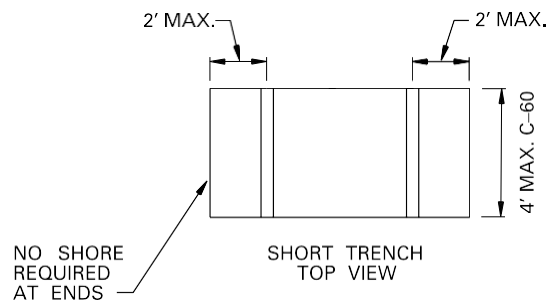

Fig. 3
5. For excavations that are too short to place 3 or 4 vertical shores at the required spacing, the shores shall be placed at the required spacing from end to end of the excavation with a minimum of two (2) shores horizontally. There shall be a shore (or pair of shores for depths greater than 6') within 2' of each end of the excavation. If trench width is 4' or less, and excavation depth is 10' or less, no end protection is required. See Fig. 3.